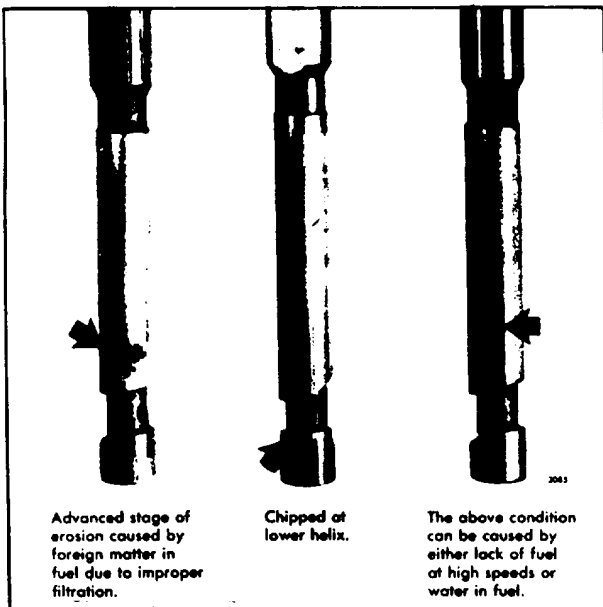

Fig. 12. - Unusable Plungers
4. Inspect the plunger. If the plunger is chipped (Fig. 12.), replace the plunger and bushing assembly.